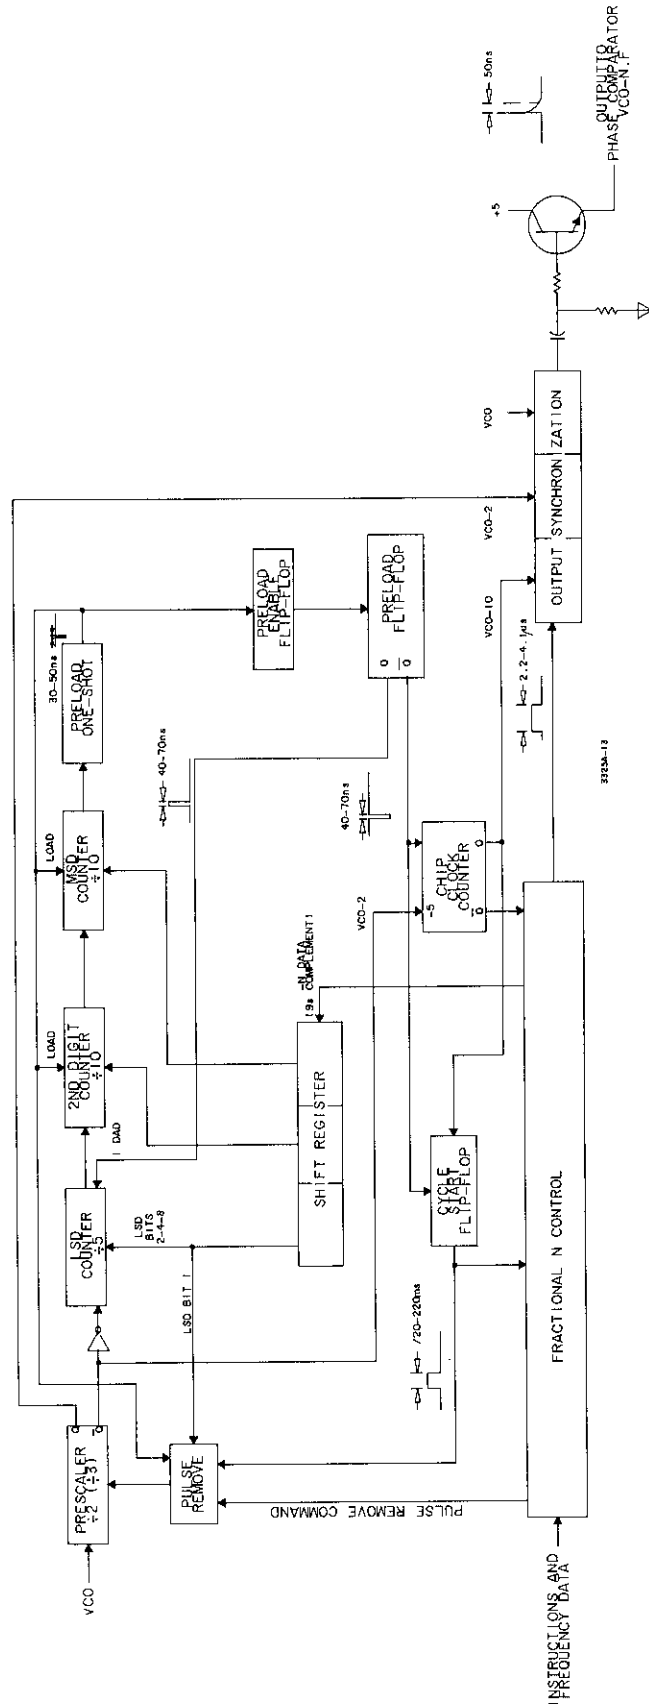

Figure 8-13. Divide by N Counter.
**8-37. Fractional N Counter.** The ÷ N (Fractional N) counter consists basically of three presettable counters in series, shown in Figure 8-13. The counters for the two most significant digits (of the 3-digit N number) are decade counters. The least significant digit counter consists of a ÷ 5 counter and a ÷ 2 prescaler which can be made to divide by three as necessary. Presettable counters are used because ÷ N must be variable, as explained below.
8-41. The chip clock counter output (Figure 8-13) is the prescaler output divided by five. The  $\bar{Q}$  output from this counter goes to the fractional N control IC and is used to clock data in and out of the four shift registers within the IC. The counter Q output is used in the  $\div N.F$  counter output synchronization and to clock the cycle start flip-flop.